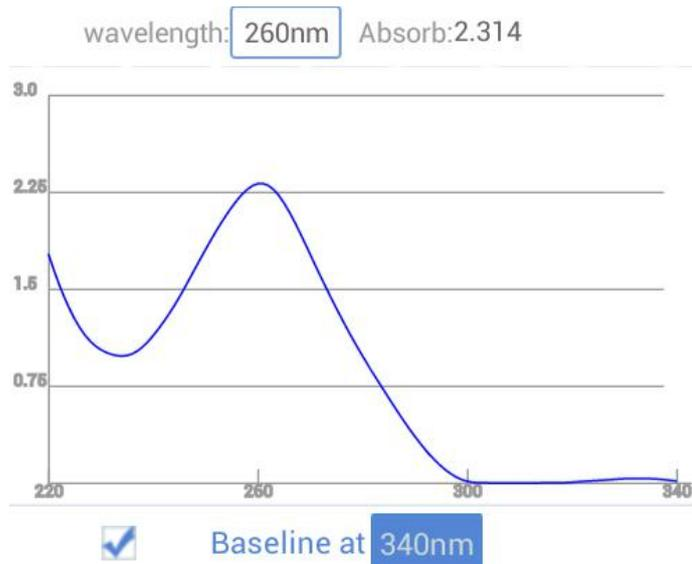

Fig 4.6 Nucleic Acids detection curve
4) wavelength: Absorb:2.314 : Click it to input the wavelength and then the absorbance accordingly will be displayed as Fig 4.6.
- ⑤ **Enlarge Curve** : Click it to amplify the Fig 4.6 interface, you can move the red coordinate line to change the wavelength and view the absorbance accordingly.
- ⑥ **Back** : Click it back to the main interface.